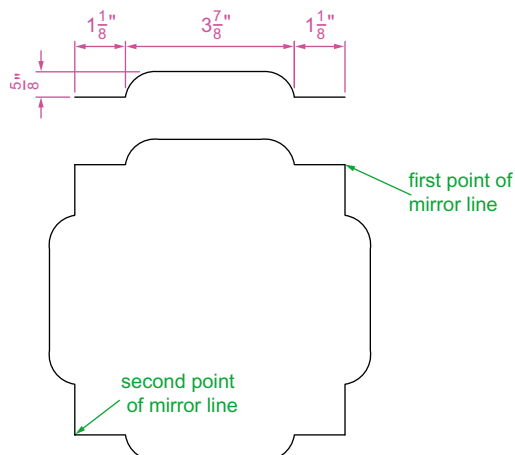

Fig. 5.10 Second example – Mirror
### Second example – Mirror (Fig. 5.10)
1. Construct the outline shown in the dimensioned polyline in the upper drawing of Fig. 5.10.
2. Call **Mirror** and using the tool three times complete the given outline. The two points shown in Fig. 5.10 are to mirror the right-hand side of the outline.